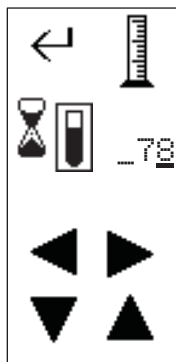

Figure 3-1 Collect fractions by volume counts
- a. From the main display, touch the FOLDER icon and then the VOLUME icon to fractionate by fixed volumes (Figure 3-1).